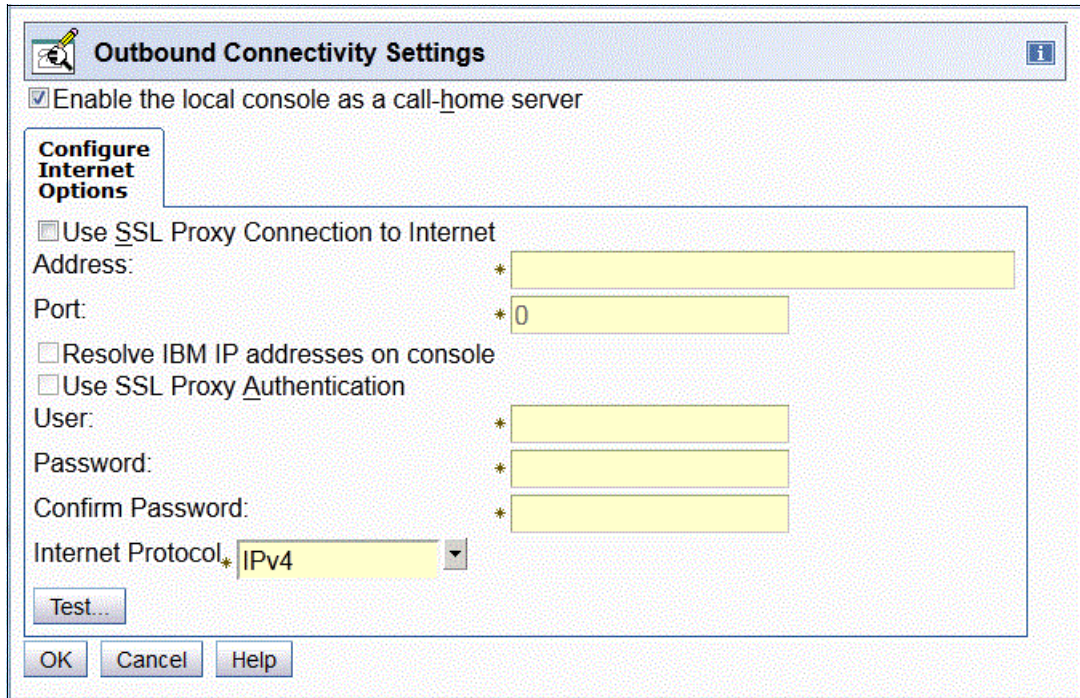

Figure 3-26 Outbound Connectivity Settings
- If your proxy requires authentication to forward requests, select **Use SSL Proxy Authenticate** and enter the user name and password. This name and password are used for all requests that are called home from this HMC. See Figure 3-26 on page 74.